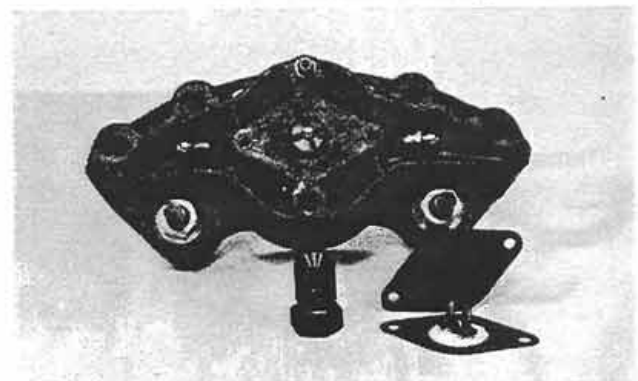

Figure 7:
5. For removal of the piston, remove the stamped cover, the retracting mechanism torque nut and collet with its washer from the rear of the piston side casting (Fig. 7).